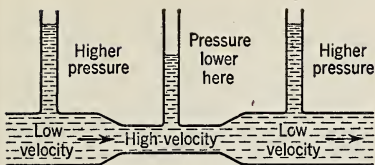

FIG. 168. As the water flows more rapidly through the constriction in the tube, the pressure is lowered.
b. The Venturi meter. A meter which may be used to measure the flow of water depends upon Bernoulli's principle. When water flows through the tube of Fig. 168, its velocity is increased as it flows through the constricted portion of the tube. From the pressure tubes, one can see that the pressure decreases as the velocity of the water increases. It is possible to